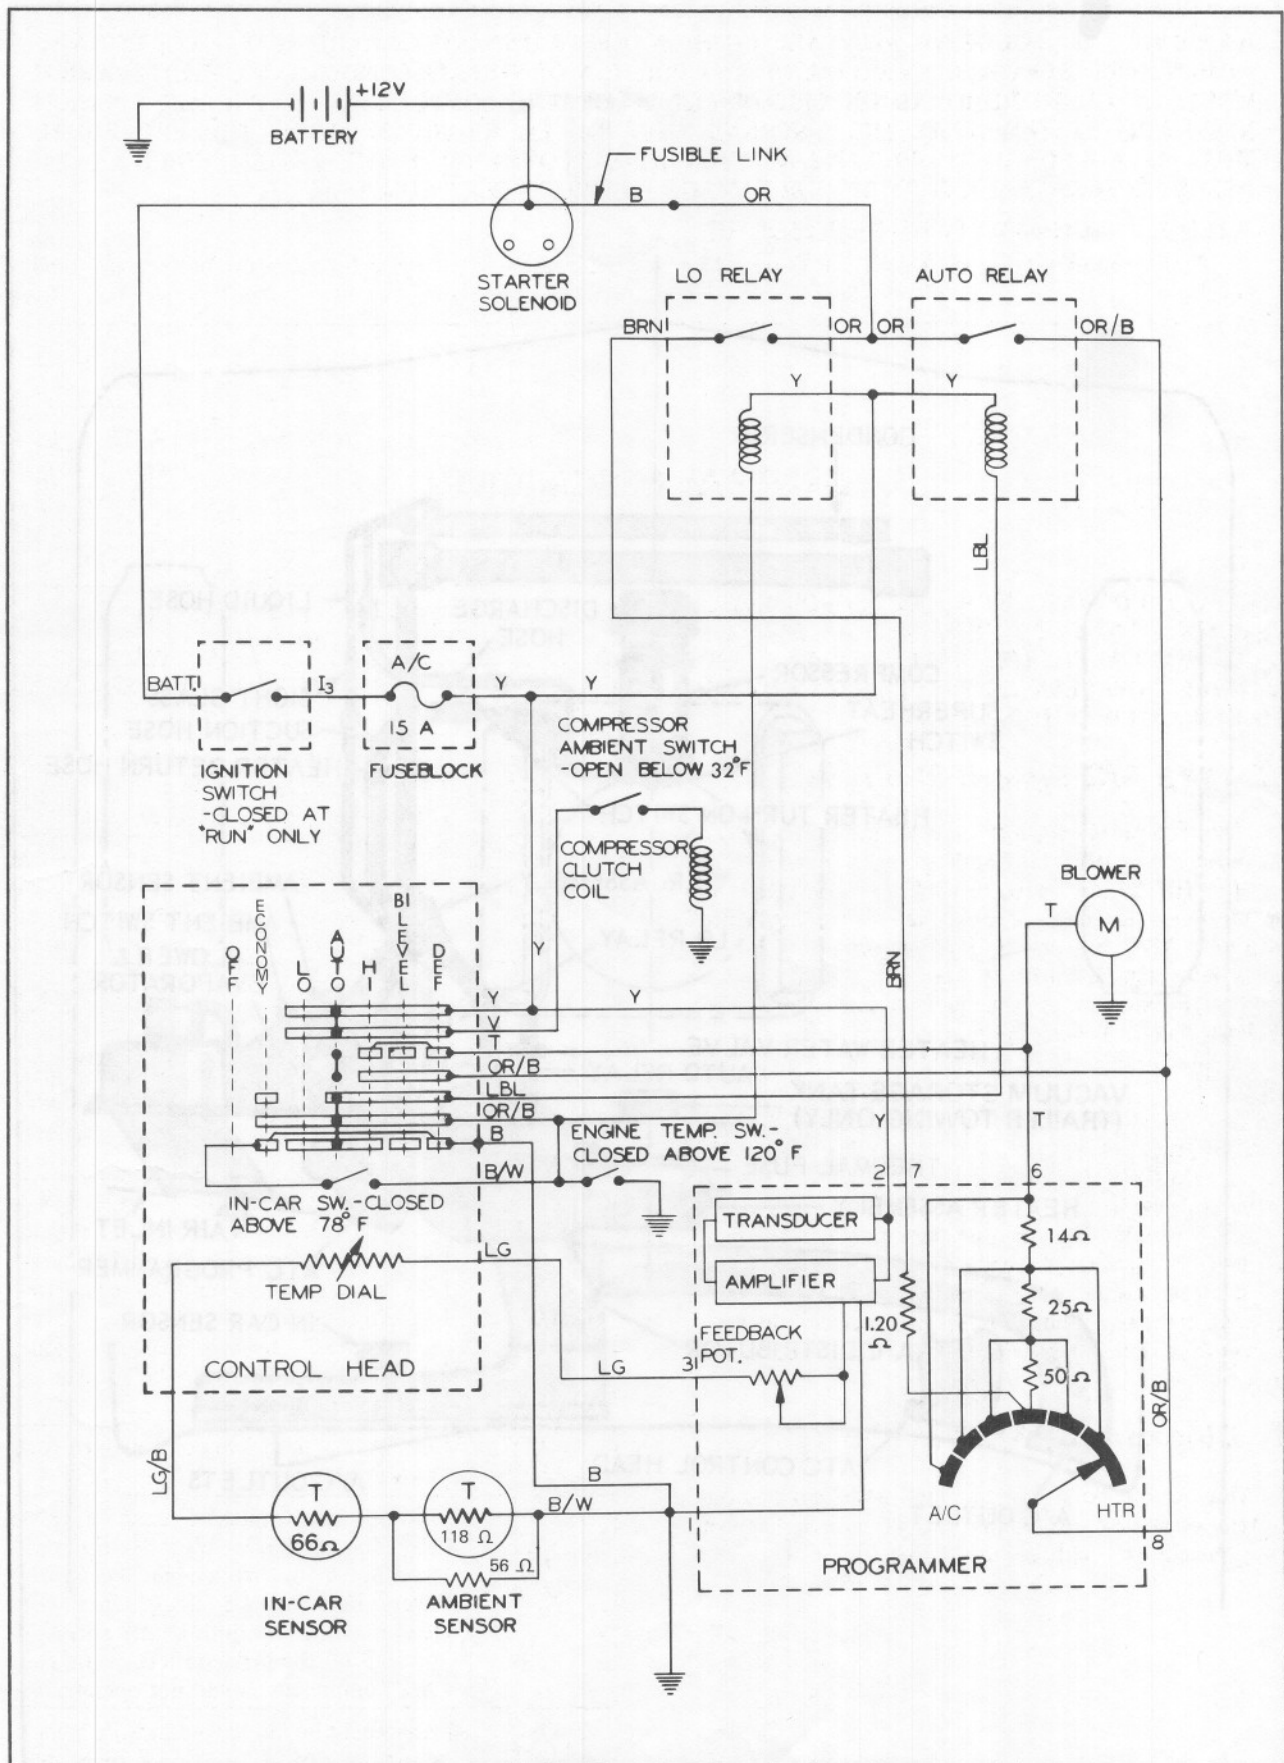

Fig. 1-1 Blower Control Circuit
- Trace lower blower circuit using electrical wiring diagram, Fig. 1-1.
3. If problem persists, check wiring continuity in the in-car switch circuit. Refer to the wiring diagram, Fig. 1-1.